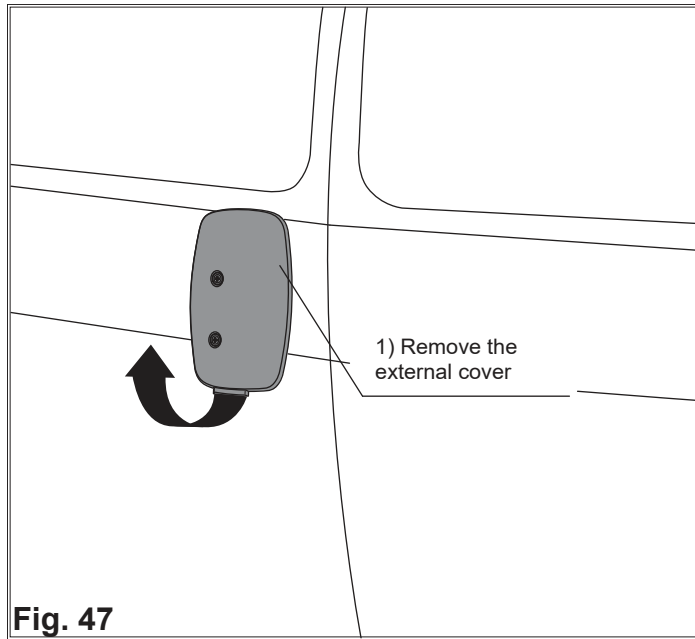

Fig. 47
1. Remove the cover, if present, (Fig. 47).